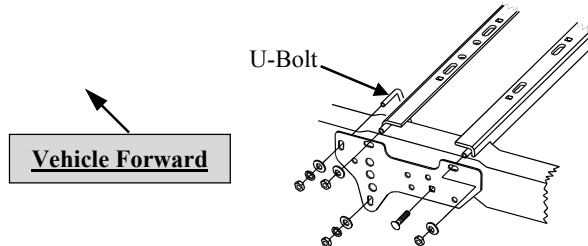

Figure 4
7. Use the supplied U-Bolt for the forward attachment of the bracket to the frame (see Figure 4). Position the U-Bolt from the inside of the vehicle frame pointing towards the hitch side bracket. On the passenger's side of the vehicle, the U-Bolt must be positioned to the vehicle forward side of the shock mount and installed on an angle through the mounting slots on the hitch side bracket.